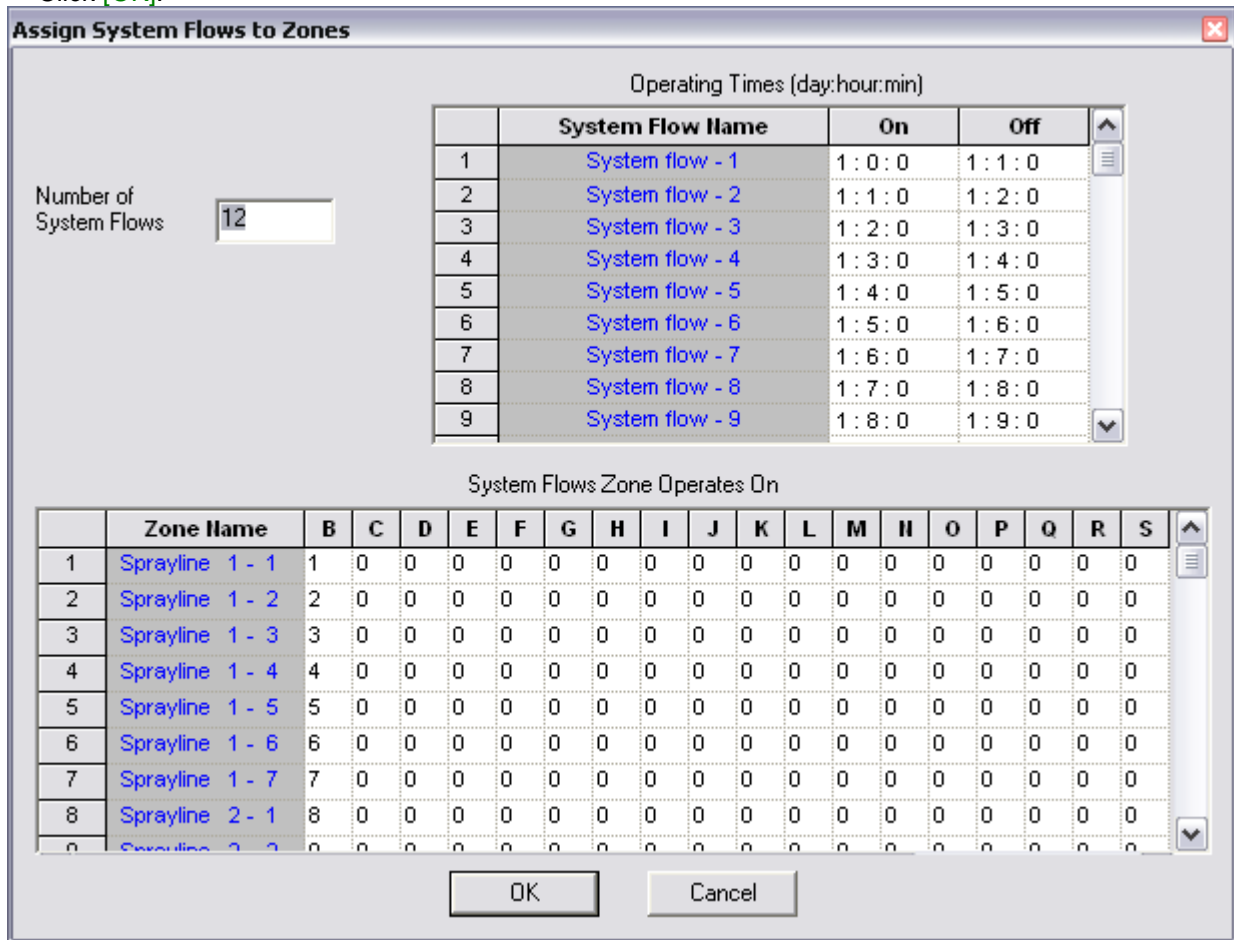

Figure TI 4
8. Select *Design|Assign Each Zone to a Unique System Flow* as each hydrant will be operating separately (only one irrigator owned). There are 15 system flows – 1 for each zone / hydrant as in Figure TI 4. Click [OK].